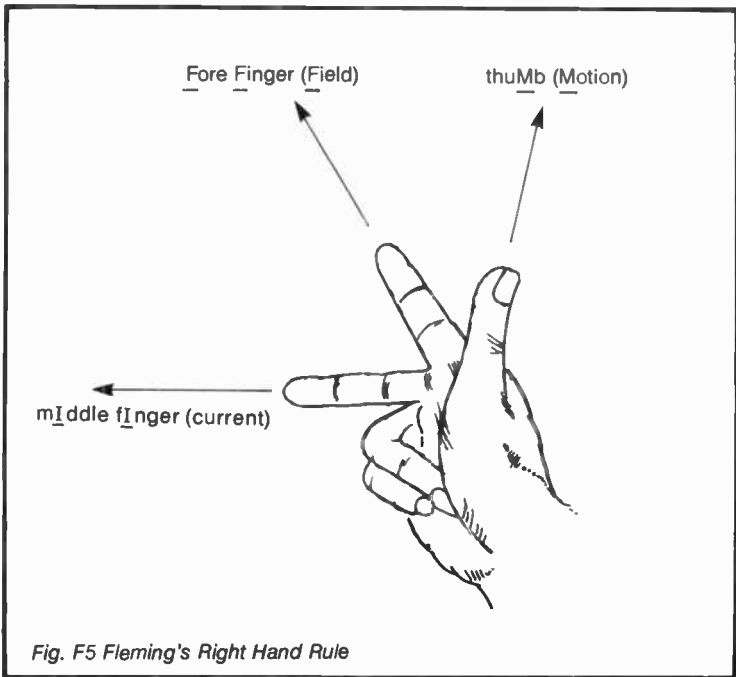

Fig. F5 Fleming's Right Hand Rule
**FLEMING'S RULES** In the electrical workshop there is occasionally the need to determine for example, the direction of motion of an electric motor or the direction of current in a generator. John Ambrose Fleming (an English electrical engineer and physicist) developed a set of rules which provide us with a handy way of linking current, magnetic flux and motion. Fortunately these are mutually at right angles. The rules assume conventional current flow (positive to negative) and as shown in Figure F5, the thumb